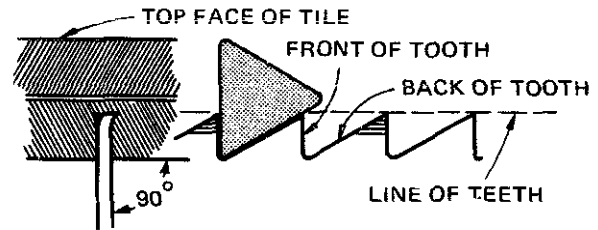
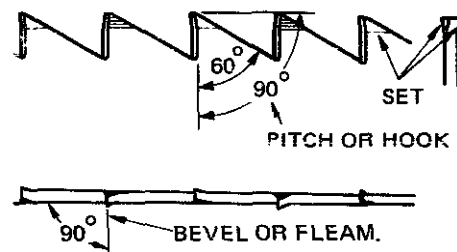

Fig. 7-19 Position of the file.
Fig. 7-20 Angles and shape of the teeth while sharpening.
2. Apply a triangular slim tapered file to the gullet of the first tooth at the heel or toe of the saw, figure 7-19. File in the same manner as described for shaping the teeth. Carefully bring each tooth to a finished point. Maintain the angles and shape of the teeth as shown in figure 7-20.